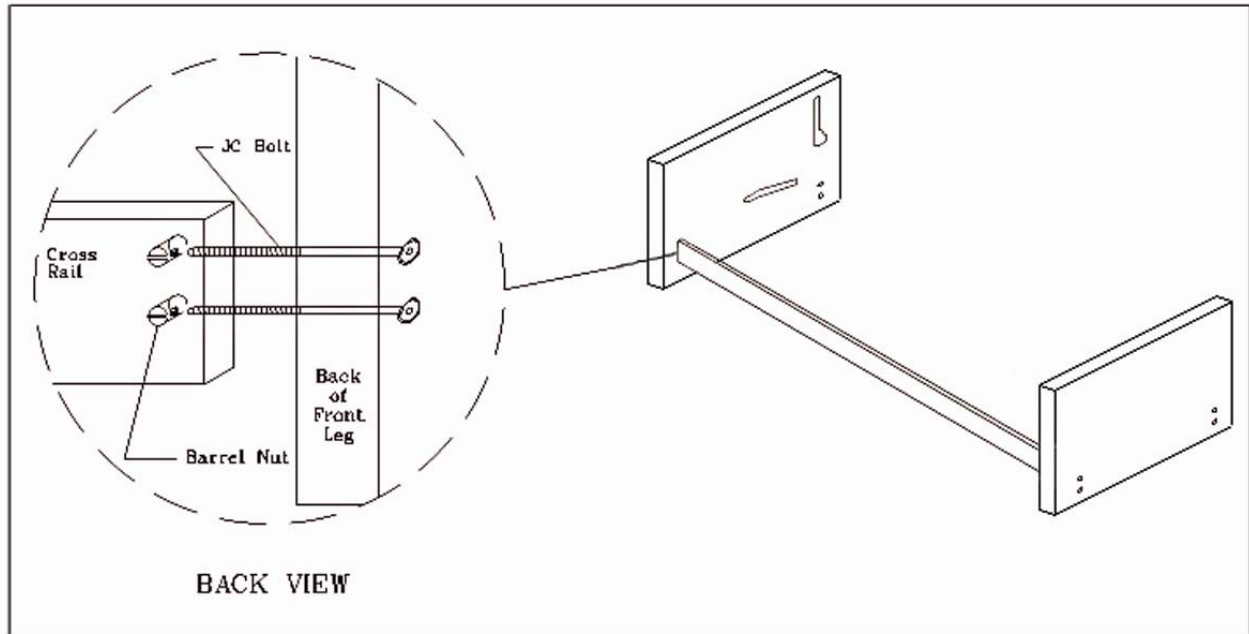

Figure 5
- 6) Locate arm assemblies and one of the cross rails. Place a barrel nut in each hole in side of cross rail. Make sure that the threaded holes in barrel nuts line up with holes in ends of rail and that the slotted end of barrel nut is exposed (Figure 5). Also, make sure that the rail marked “Front” is facing with the metal guards up and the front sticker to the inside of the frame.
- 8) Place JC bolt through top hole in outside of arm assembly's front leg and start it into a barrel nut in one of the cross rails. Be sure slotted end of barrel nuts are toward inside of frame. **DO NOT TIGHTEN!** If bolt won't start, use slotted screwdriver to position barrel nut. Leave about 1/4" of play. Place JC bolt through bottom hole and start it, also leaving 1/4" of play. Repeat procedure for other arm. When all four bolts are set, gently pull back legs apart just past point of armrest being parallel (Figure 5).
- 11) Tighten JC bolts in front leg. Fasten remaining cross rail to back legs of arm assembly as shown in Figure 5. Tighten securely.